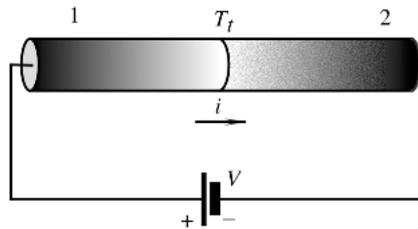

Figure 7: Peltier effect in single junction.
- (5p) (e) Figure 7 shows a single junction of two different materials. Explain (in maximally 200 words) why the Peltier effect results in the production or liberation of energy at a junction when a current is passed through this junction.